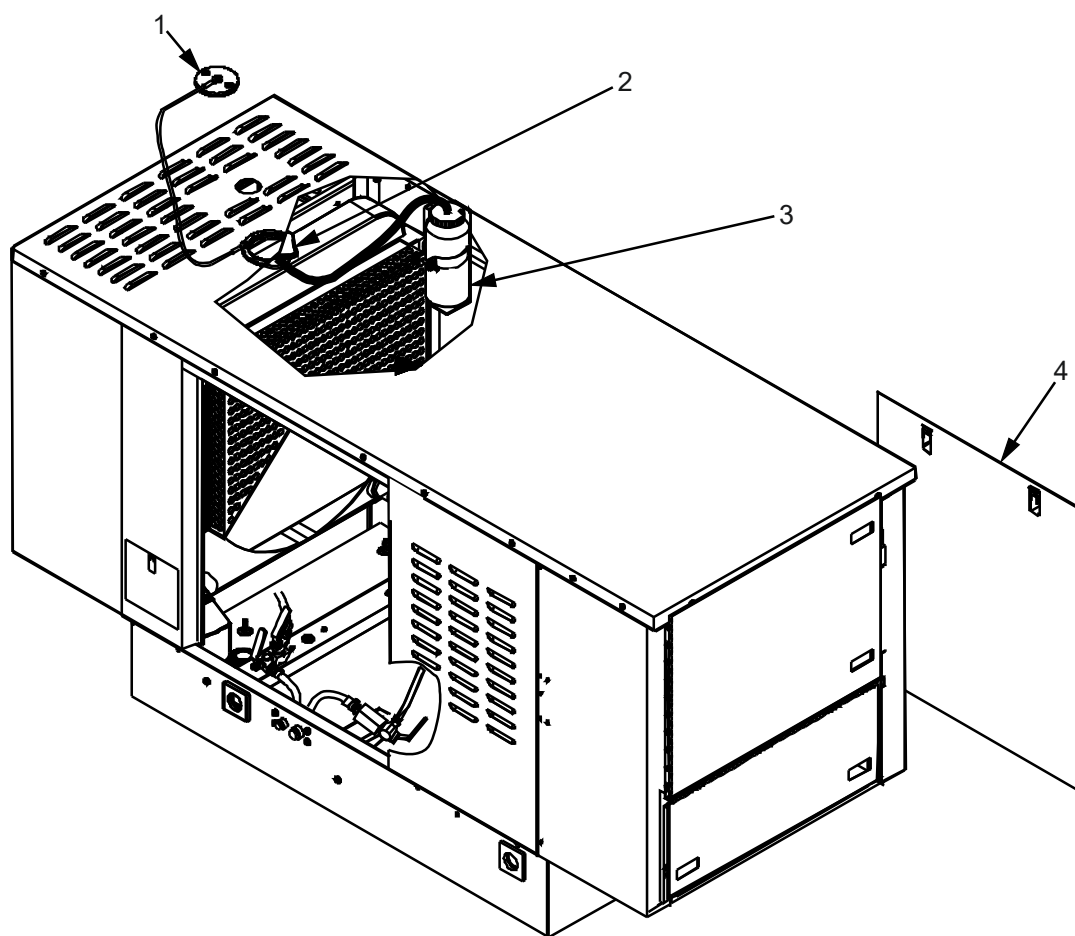

Figure 2. Location of Radiator and Radiator Overflow Bottle.
2. Remove and retain Genset access panel (Figure 2, Item 4).
3. Check fluid level in radiator overflow bottle (Figure 2, Item 3). Fluid level in overflow bottle should be 1/3 to 1/2 full when the engine is cool.
4. If necessary, remove cap and add coolant to achieve the proper level (1/3 to 1/2 full) in radiator overflow bottle (Figure 2, Item 3).
5. Remove and retain access cap (Figure 2, Item 2) located on the top of the Genset enclosure.
6. Remove and retain radiator cap (Figure 2, Item 1) and observe coolant level. Coolant should be one inch below the overflow level.
7. If required, add coolant through the access cap (Figure 2, Item 2) until proper level is obtained.
8. Install and tighten radiator cap (Figure 2, Item 1) and access cap (Figure 2, Item 2).
10. Shut down the Genset in accordance with Genset Stop Procedure (WP 0005) and allow radiator to cool. Check coolant level in radiator overflow bottle (Figure 2, Item 3). Radiator overflow bottle (Figure 2, Item 3) should be 1/3 to 1/2 full when the engine is cool. If necessary, repeat steps 3 through 7.
11. Install and latch rear access panel (Figure 2, Item 4).